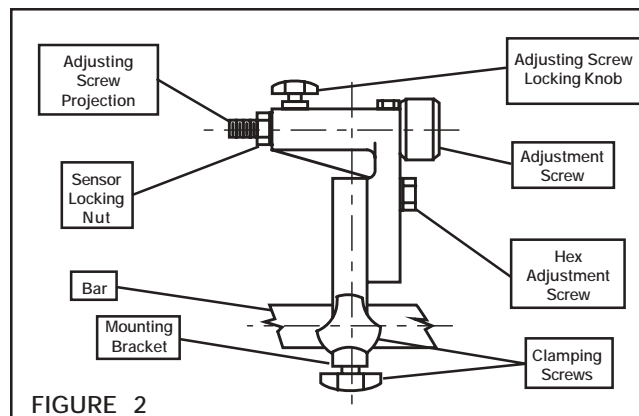

FIGURE 2
2. Install the Mounting Bracket on the bar (See Figure 2).
4. Install a sensor on the Adjusting Screw Projection and secure it with the Sensor Locking Nut (See Figure 2).
5. Loosen the Adjusting Screw Locking Knob and position the Adjustment Screw to the midpoint of its travel (approximately 0.6 In. [15 mm]) (See Figure 2).